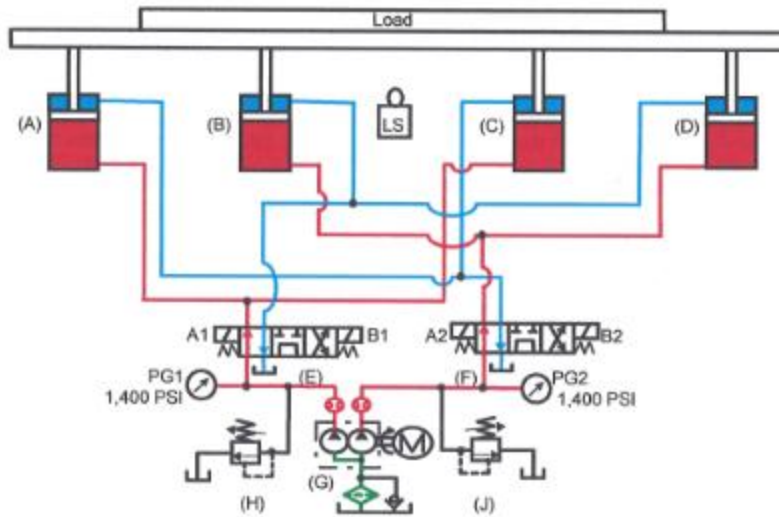

Figure 22-20. Modified double-pump-and-valve synchronizing circuit. Solenoids A1 and A2 energized, cylinders extending.
After both directional valves shift and the cylinders are stroking as in Figure 22-20, the pairs of cylinders try to stay level. If pump (G) produces higher flow, cylinders (A) and (C) try to run ahead. Because cylinder (B) is between them, it will either hold the other cylinders back or be dragged along by them. The platen must be strong enough to transmit this differential cylinder loading without flexing.